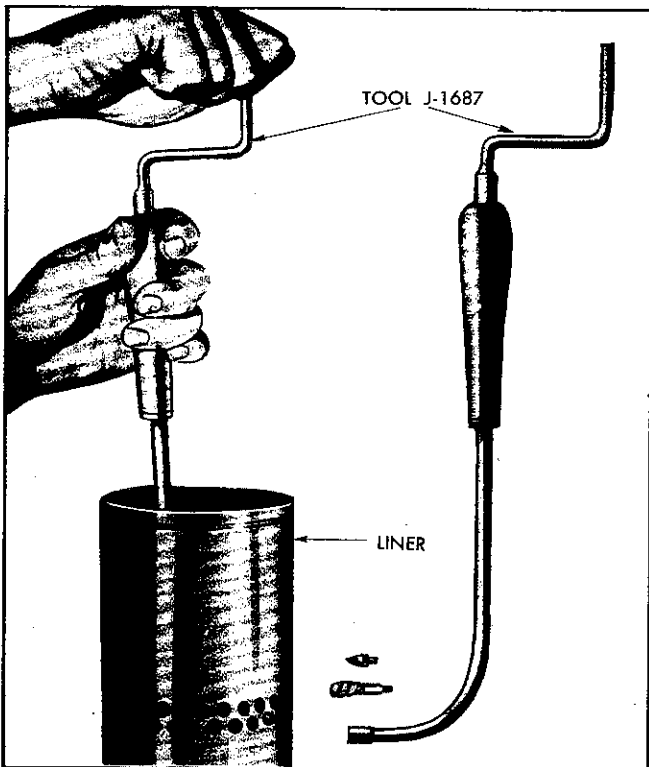

Fig. 3—Cleaning Carbon from Air-Intake Ports with Tool J-1687.
Tool J-1687, shown in Fig. 3, or some similar angular shaped tool may be used to advantage for cleaning the ports while the liner and piston are in place.
2. With cutter in place on the tool shown in Fig. 3, or with some equivalent tool, cut carbon from each port. Place burnishing head on the tool shown and clean all ports again.